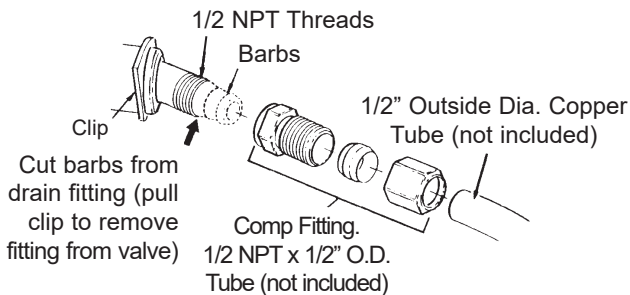

FIG. 5
Using 1/2" I.D. flexible drain hose, measure and cut to the length needed. Flexible drain hose is not allowed in all localities (check your plumbing codes). If local codes do not allow use of a flexible drain hose, a rigid valve drain run must be used. Purchase a compression fitting (1/2 NPT x 1/2 in. minimum tube) and 1/2" tubing from your local hardware store. Plumb a rigid drain as needed (see Figure 5).
- a. Take a length of 1/2" I.D. hose and attach to the valve drain elbow fitting (See Figure 5 on page 7). Use a hose clamp to hold the hose in place.
- b. Locate the other end of the hose at a suitable drain point (floor drain, sump, laundry tub, etc.). Check and comply with local codes. Refer to Figure 5 on page 7 if codes require a rigid pipe drain run.
1. Make sure the drain hose is attached to the Central Water Filtration System and the other end is secured over a drain (see Figure 5 on Page 7).